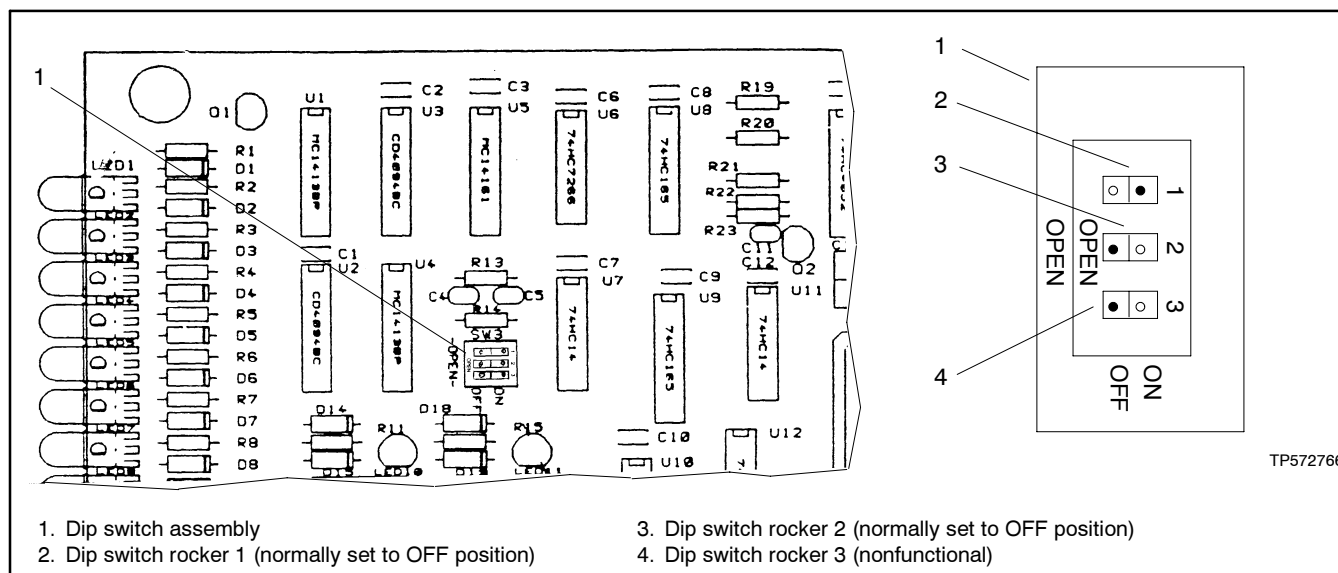

Figure 2-3 TDES Dip Switch Location
2. Locate the dip switch on the generator set controller board. See Figure 2-3 for dip switch location on the controller circuit board and for dip switch settings.